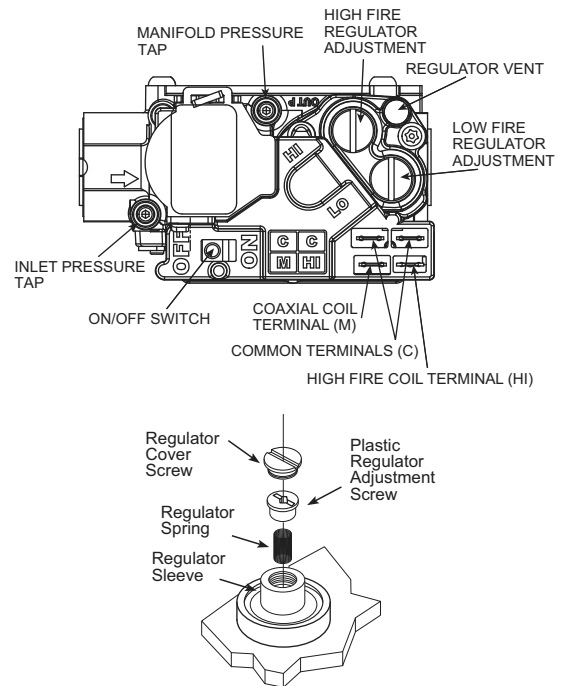

Figure 3 Gas Valve
2. With a 3/32 inch hex wrench, remove the manifold pressure tap plug located on the outlet side of the gas valve. Refer to Figure 3.
5. Allow the furnace to operate for three (3) minutes and then check the manifold pressure. For LP gas installations, the manifold pressure should be set to 10 in. WC. If the manifold pressure is not set to the appropriate pressure, then it must be adjusted.
1. If the manifold pressure must be adjusted, then remove the regulator cover screw from the top of the gas valve regulator, as shown in Figure 3.